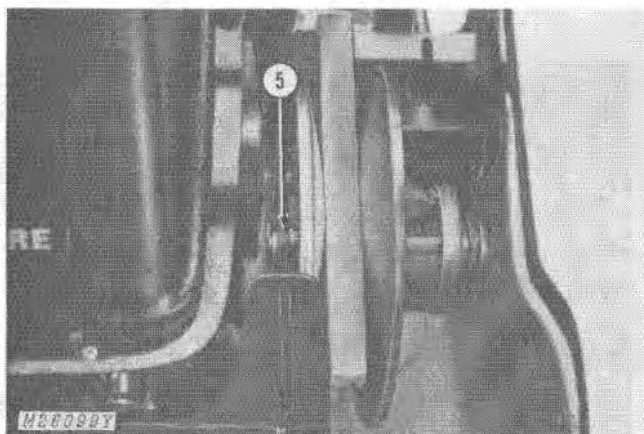

Fig. 12-Installing Driven Sheave, Spacer and Shims
5. Install spacer, shims and driven sheave, Fig. 12.